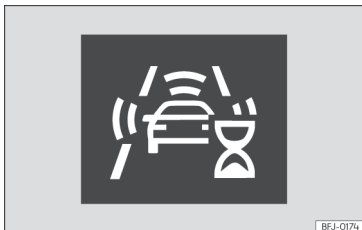

Fig. 156 On the instrument panel display: initial system self-calibration indication.
- In the first few instants of driving after switching on the ignition, due to the system's initial auto-calibration. During this period, a status icon »» Fig. 156 is displayed.